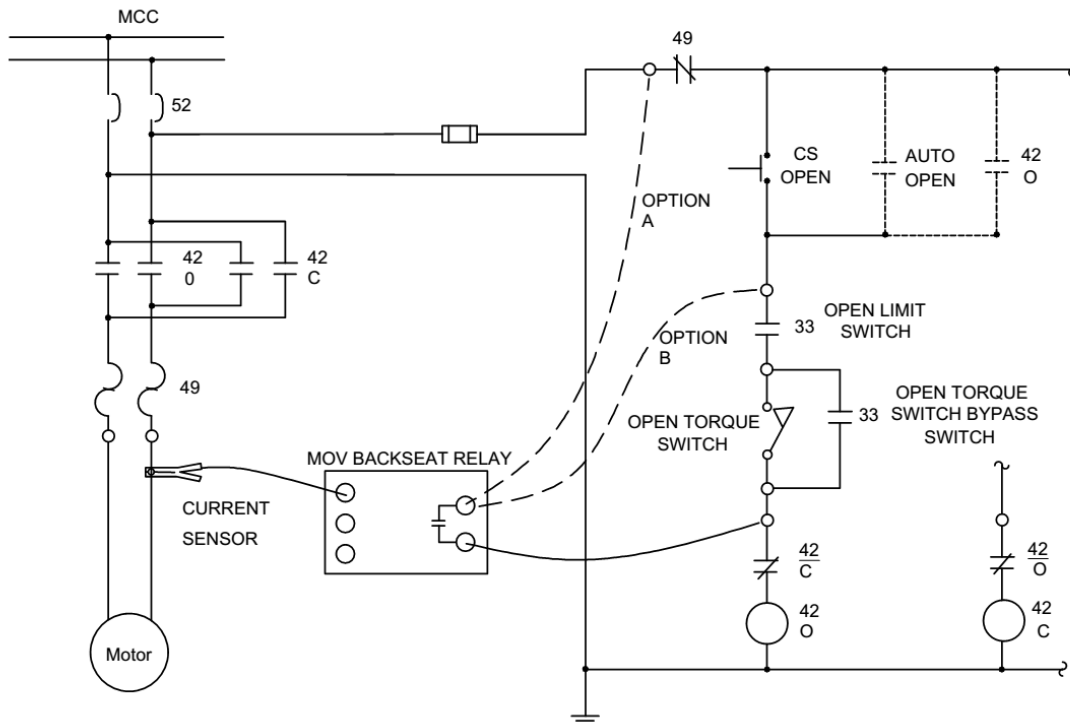

Figure 2: Typical Connection Diagram for DC
- 5.3 Connect test leads from the yellow relay contact jacks to parallel with the limit switches in the motor control cabinet. Typical connection points are shown in Figure 2. Option A gives full control to the relay. With option B, the relay just bypasses the limit switches.